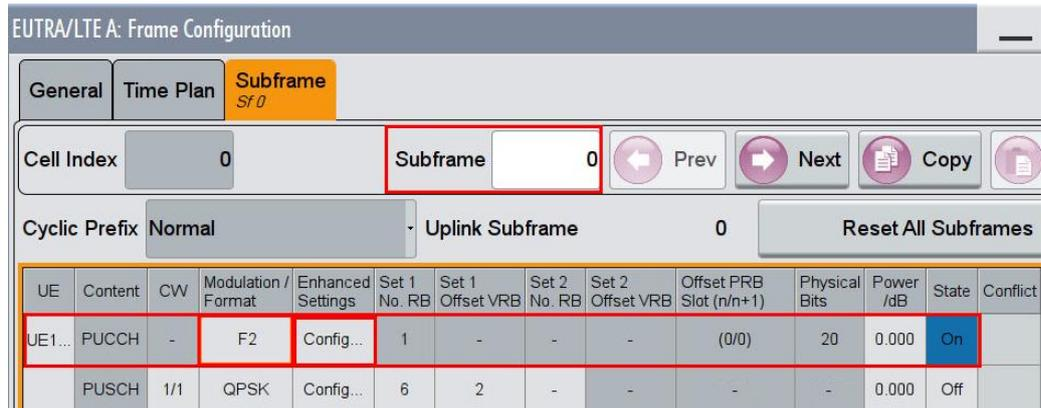

Fig. 3-157: PUCCH with format F2 in subframe 0
9. Set for the PUCCH the **Format** to **F2** and the state **On** (Fig. 3-157)